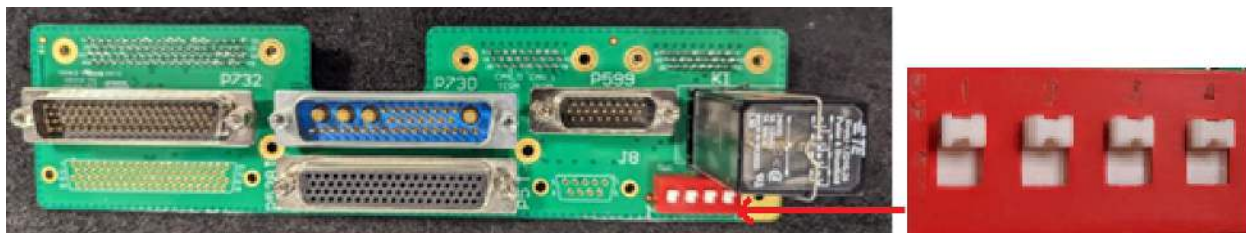

Figure 4-19: PFD EZ Adapter with Fail Safe Relay Installed
3. Install the removed relay and retainer clip onto the relay socket on the PFD EZ Adapter. See Figure 4-19: PFD EZ Adapter with Fail Safe Relay Installed.
4. For Single Magnetometer Installations, set dip switch positions 1-4 on both the PFD and MFD EZ Adapters SW1 to the UP position, see Figure 4-19: PFD EZ Adapter with Fail Safe Relay Installed
5. For Dual Magnetometer Installations, set dip switch positions 1-4 on both the PFD and MFD EZ Adapters SW1 to the DOWN position, opposite to image shown in Figure 4-19: PFD EZ Adapter with Fail Safe Relay Installed.